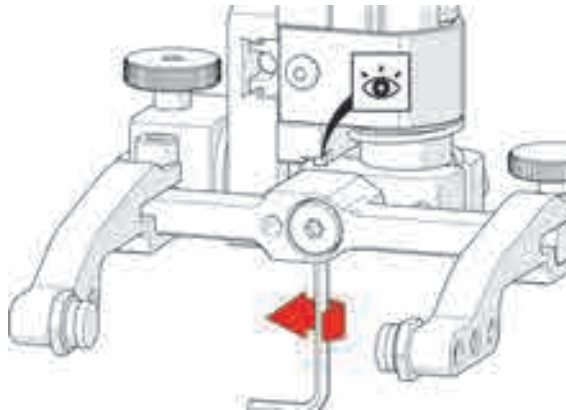

Figure 4-72 Raise opposite 90° stop post
8. Raise the stop post on the opposite side until the side of the post clearly contacts the 90° stop point on the probe holder's base (see Figure 4-72 on page 147).